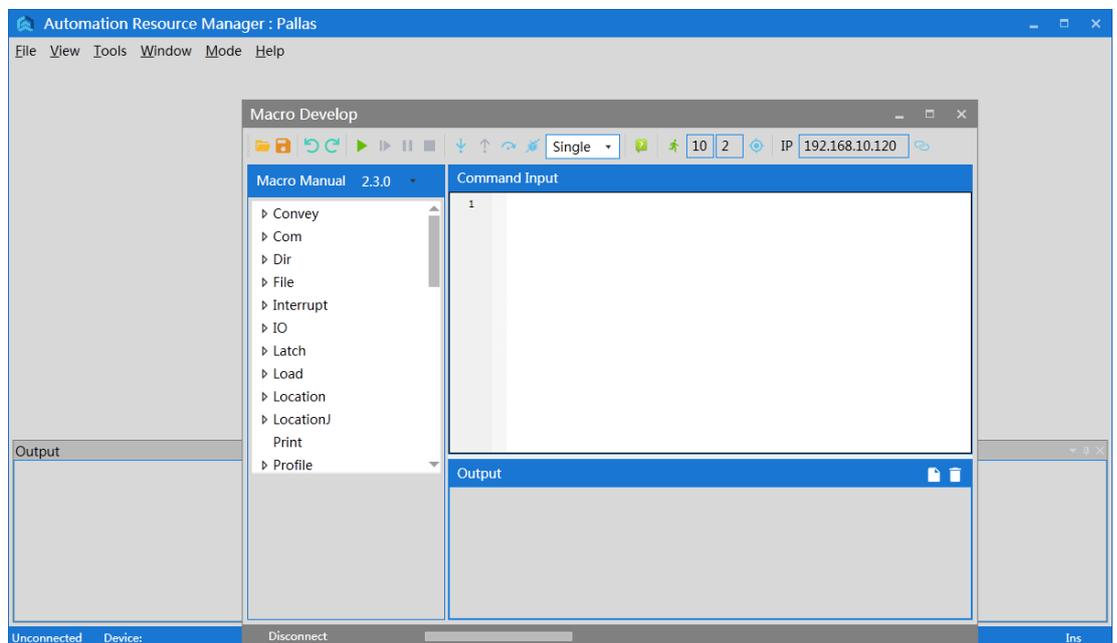

Figure 6-7 Macro language development interface
Step 3 The macro language development interface is shown in Figure 6-7